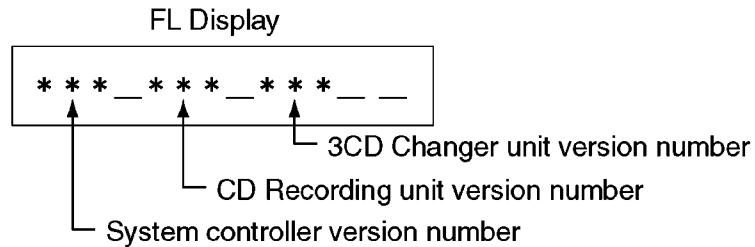

Fig. 12-4
- 3.Version number is displayed in FL display for five seconds when “SET” key is pushed. When five seconds pass, this mode is automatically made clear. (Refer to Fig. 12-4.)